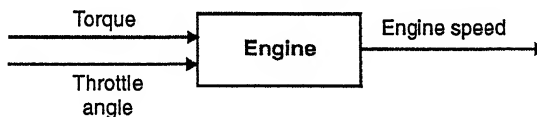

Fig. 7.3. Idle-speed control system.
- Fig. 7.3 shows an idle-speed control system from the stand point of inputs-system-outputs. In this case the throttle angle and the load torque (due to the application of air conditioning, power steering, transmission, power brake, etc.) are the inputs, and the engine speed is the output. The engine is the controlled process of the system.